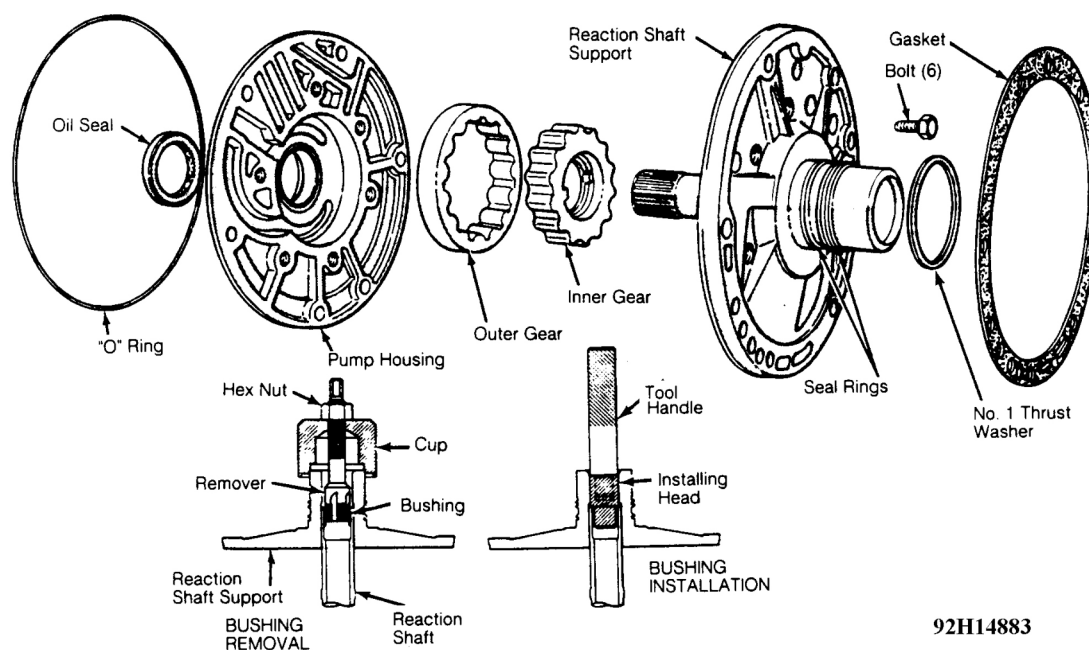

Fig. 8: Exploded View of Oil Pump Assembly
Remove bolts from rear side of reaction shaft support and lift support off pump. Remove "O" ring from pump housing. See **Fig. 8** . Using a blunt punch, drive oil seal out of pump housing.
3. Inspect machined surfaces on pump housing and reaction shaft support for nicks and burrs. Inspect pump housing and reaction shaft support bushings for wear or scoring. Replace bushings (if necessary). See **Fig. 8** .